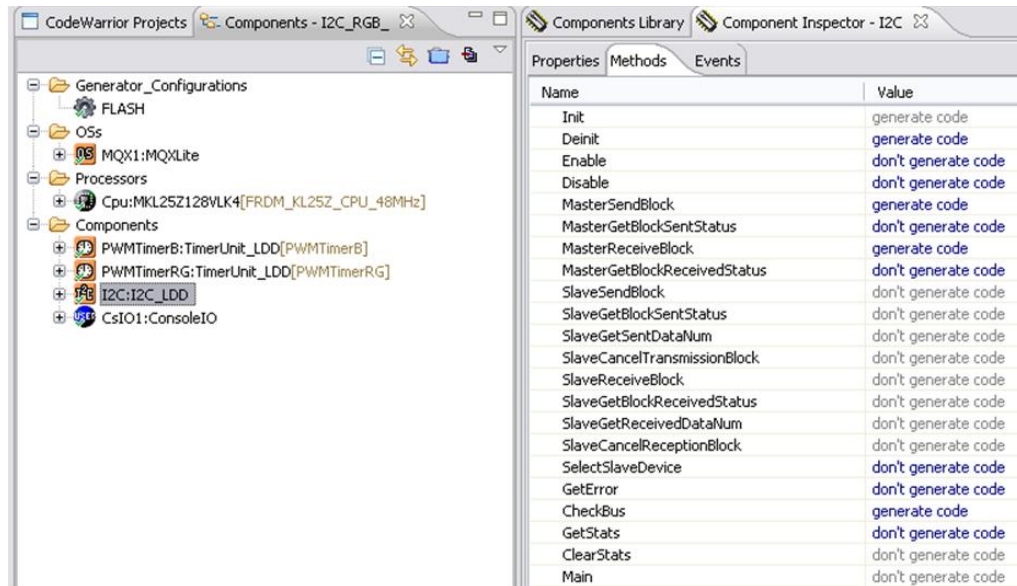

Figure 37. The “I2C” methods creation definition
12. For the "I2C_LDD" components it is necessary to define the functions to be added by the auto-generated code. To do this click in the "Methods" tab under the Component Inspector. Figure 37 illustrates the right configuration for the methods creation.